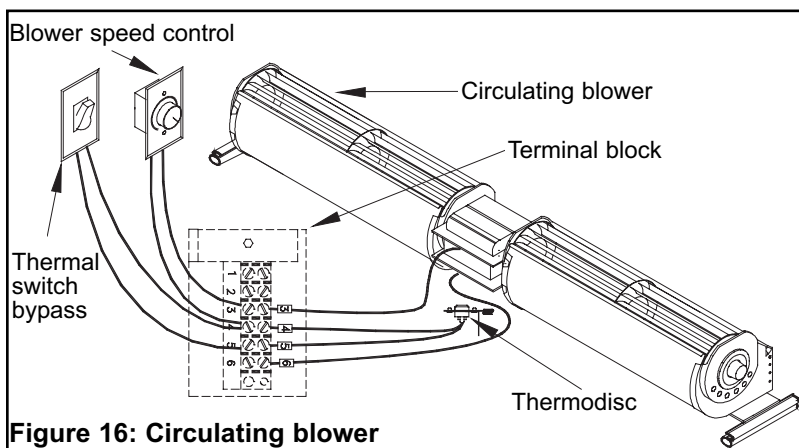

Figure 16: Circulating blower
8. Locate the provided speed control in a switch box at a convenient location on the wall and connect it with conventional 90° C 14 gauge wire (see Figure 16).